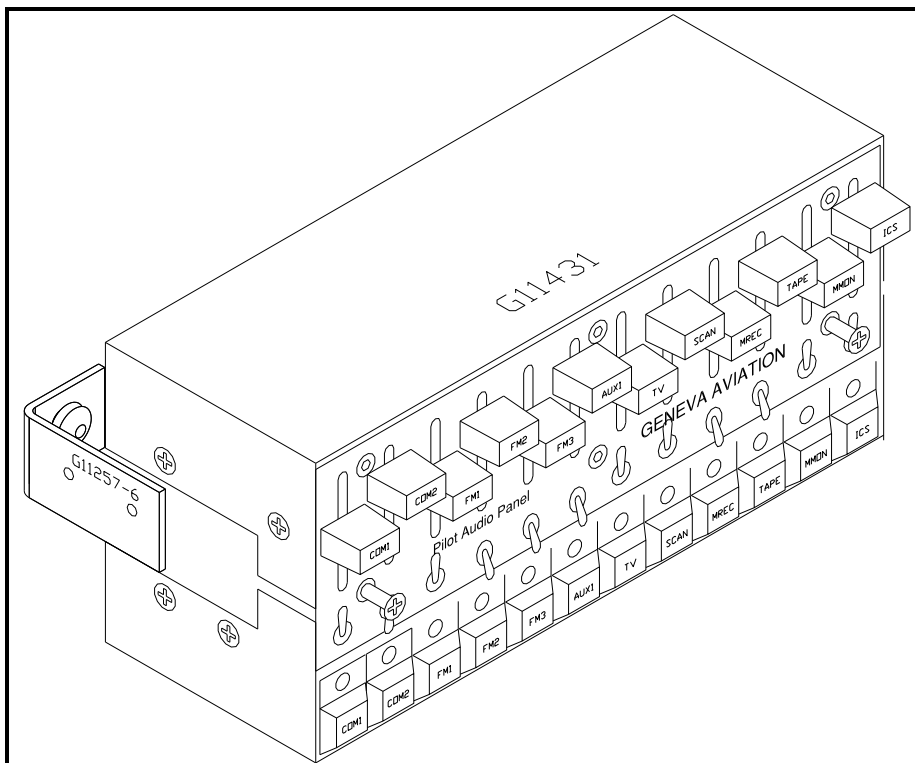
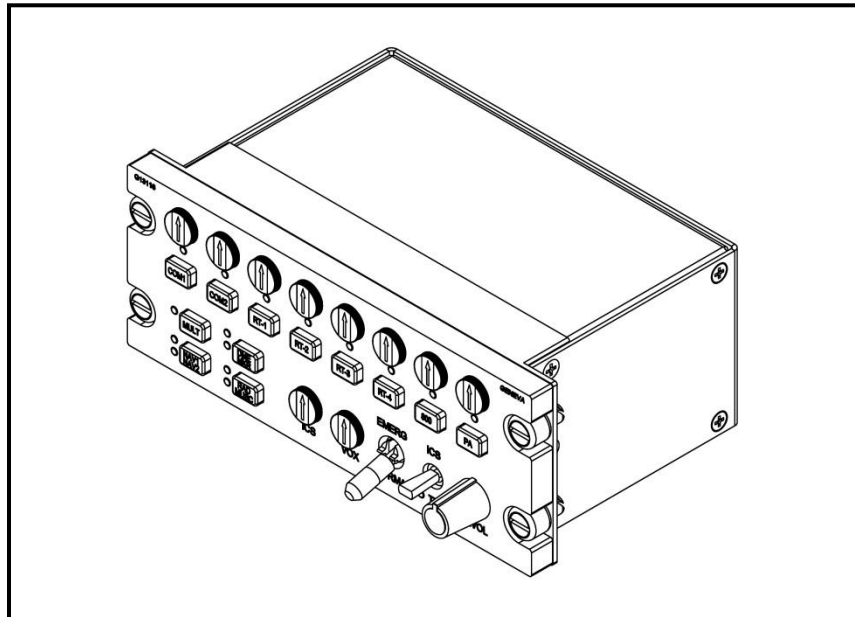

Figure 7: G11431 Control Panel
Figure 14: G13116/G13116NS Control Panel
- b. A minimum of 2 Audio Control Panels for the pilot and co-pilot. A typical installation will include 3 or more Audio Control panels for the pilot, co-pilot, crew members, and/or passengers. The Control Panels come in the following configurations: P/Ns G11431, G11460, G11462, G11470, G11480, G11490, G13115/G13115NS, and G13116/G13116NS as shown in Figure 7 through Figure 14. The Audio Control Panels can be used interchangeably, depending on the control functions desired although G13115NS and G13116NS panels must not be used as primary control panels for Pilot or Copilot.